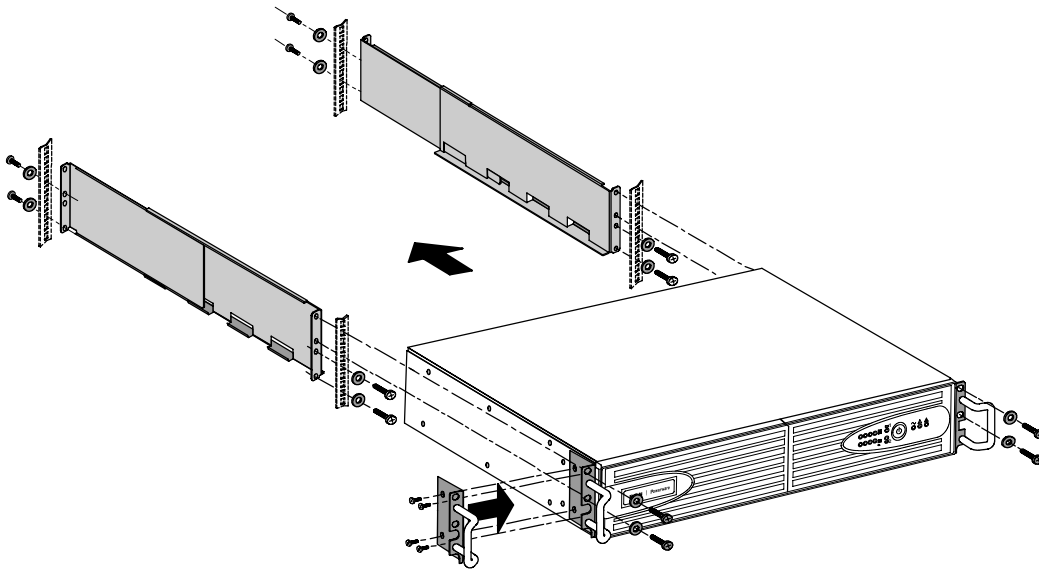

Figure 4. Installing the Rail Kit
3. Using two M5 washers and two M5 screws, attach the rail to the rear of the rack (see Figure 4).
7. Attach the supplied mounting brackets to the cabinet and secure with four M4 screws on each side (see Figure 4).
10. Secure the front of the cabinet to the rack using two M5 washers and two M5 screws on each side (see Figure 4).